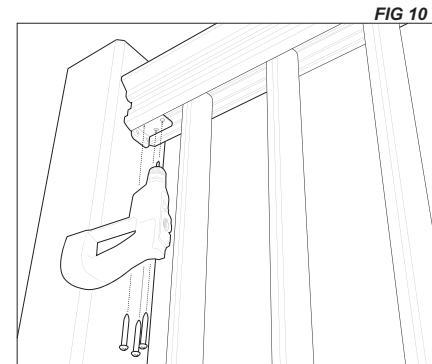

FIG 10
15. Pre-drill and attach both top rail brackets to the underside of the universal rail. **Note: A bit extension may be necessary to drive screws. (Figure 10)**
15. Slide the handrail over the top universal rail. **(Figure 10)**